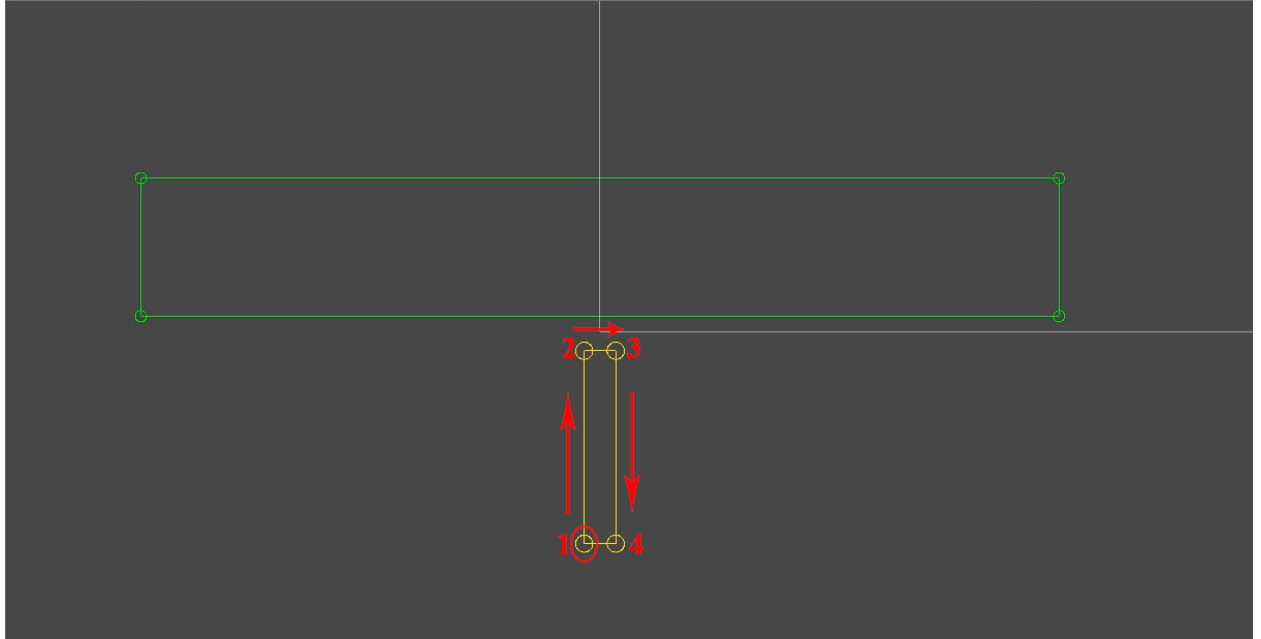

Figure 7
- 1) Creating a contour for the tool. At this contour, the point bypass should be clockwise, the end point should lie on the same line along the X axis with the first point in the contour (Y should be equal) and also X should be greater than the first point. As a result, we learn such a contour, Figure 7. In the code, this is the class “Cutter”, the method “GetAllContour”.